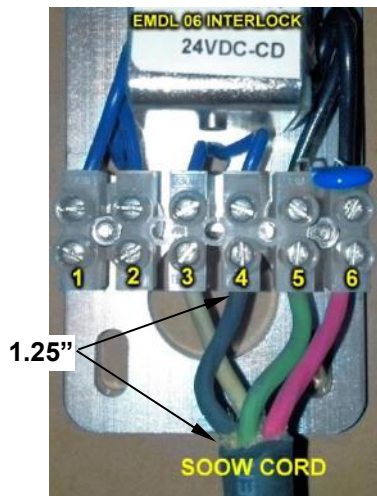
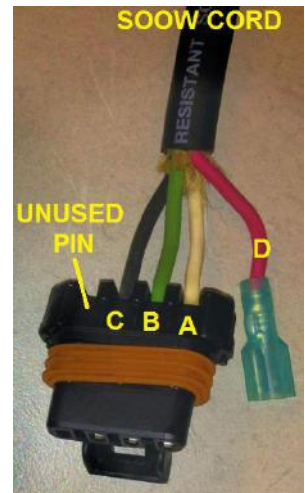

FIG. 14.5
FIG. 14.6
- 14.2.1. Interlock electrical connections are shown in FIG. 14.5 and FIG. 14.6.
- 14.2.2. Strip the 18/4 SOOW cord insulation back, exposing approximately 1.25" of internal 4- white, black, green, and red wires (FIG. 14.5).
- 14.2.4. Remove the cover from the interlock and connect the wires from the SOOW cord as shown (FIG. 14.5).